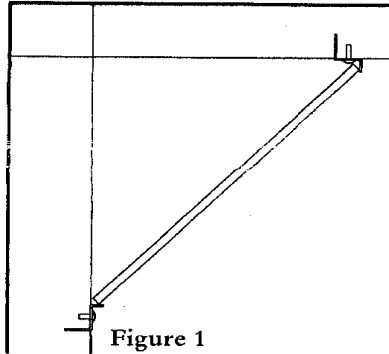

Figure 1
- Before positioning cases, slide angled mirror in from the side of the case. See Figure 1